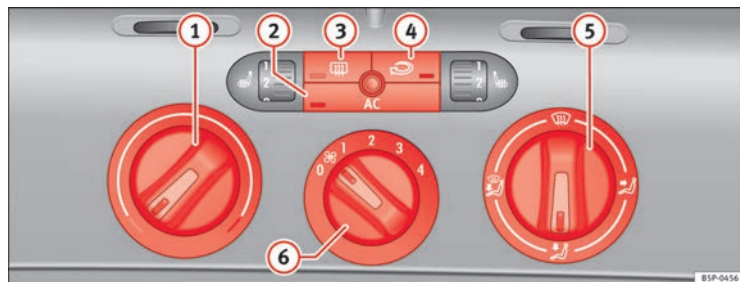

Fig. 127 On the dash panel: Climatic controls
- Turn the temperature selector ⇒ fig. 127 ① clockwise to select the required temperature.